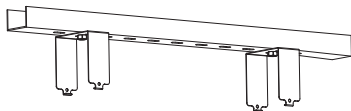

Figure 6
- Step1. Mount the bracket on the rail or ceiling (Figure 6);